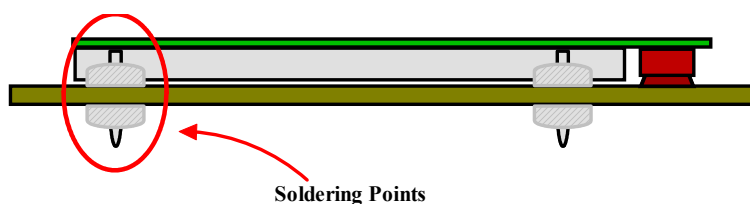

Figure 15b: The ground pin has solder on both sides of PCB
- The ground pins has to be soldered on both sides of the PCB, as shown in Figure 15b. This is help to speed up the process of heat dissipation from the module.